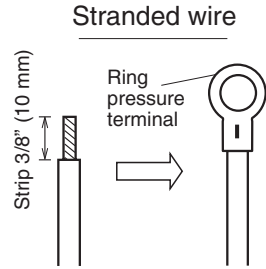

Fig. 4-3
- (1) Cut the wire end with cutting pliers, then strip the insulation to expose the stranded wiring approx. 3/8" (10 mm) and tightly twist the wire ends. (Fig. 4-3)
- (2) Using a Phillips head screwdriver, remove the terminal screw(s) on the terminal board.
- (3) Using a ring connector fastener or pliers, securely clamp each stripped wire end with a ring pressure terminal.